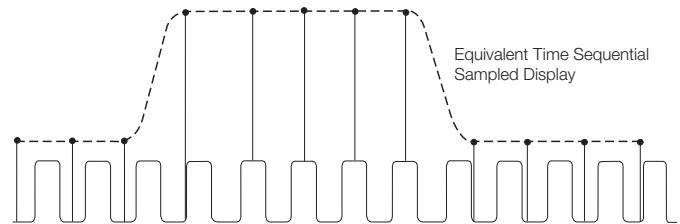

**Figure 33.** In random equivalent-time sampling, the sampling clock runs asynchronously with the input signal and the trigger.
**Random Equivalent-time Sampling.** Random equivalent-time digitizers (samplers) utilize an internal clock that runs asynchronously with respect to the input signal and the signal trigger, as illustrated in Figure 33. Samples are taken continuously, independent of the trigger position, and are displayed based on the time difference between the sample and the trigger. Although samples are taken sequentially in time, they are random with respect to the trigger – hence the name “random” equivalent-time sampling. Sample points appear randomly along the waveform when displayed on the oscilloscope screen.